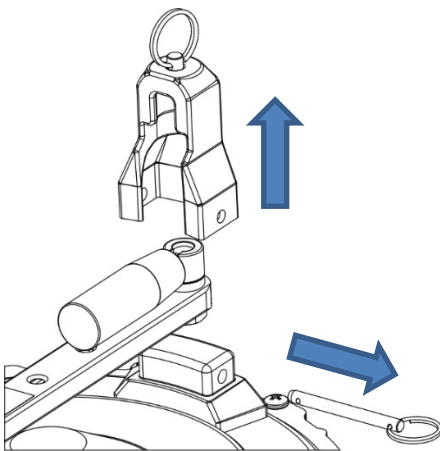

Figure 2
1. Remove side handle cap pin with label indicating "PULL THIS PIN FIRST". Remove handle cap with label indicating "PULL THIS PIN SECOND". See *figure 2*.